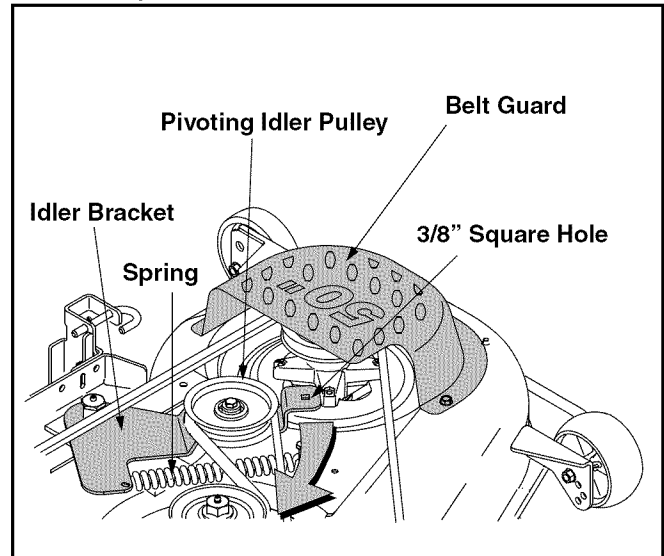

Figure 19
- To ease in removing the belt in later steps, loosen, but do not remove, the bolt which secures the pivoting idler pulley to the idler bracket. See Figure 19.
- Insert a 3/8"-drive ratchet wrench (set to *tighten*) into the square hole found in the idler bracket on the left side of the deck’s surface. See Figure 19.